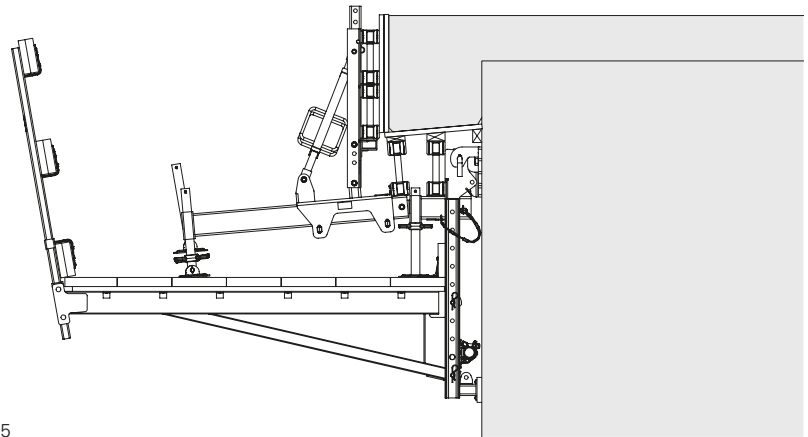

Fig. C3.05
- Dismantle and remove the formwork unit. (Fig. C3.05)